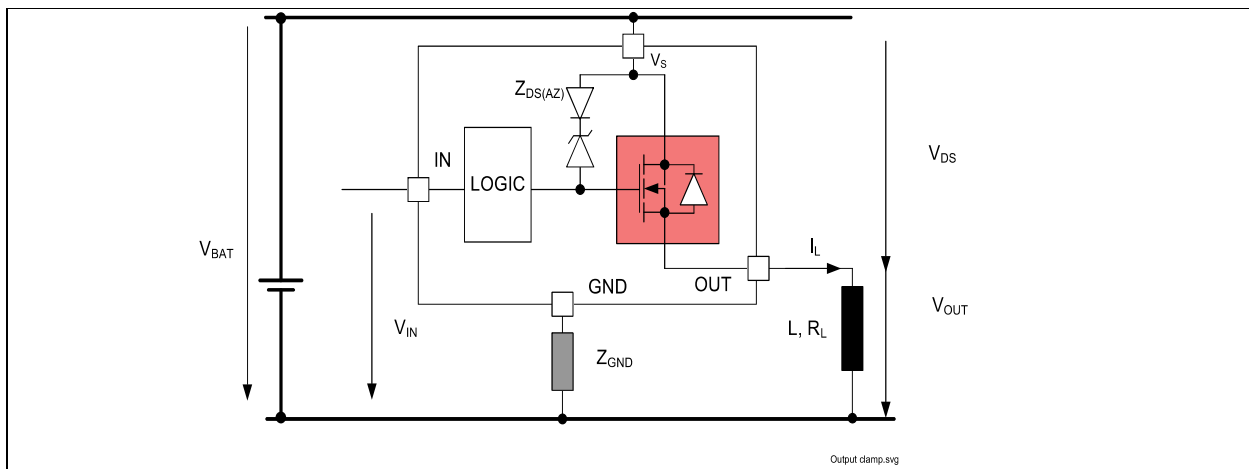

**Figure 9** Switching a Resistive Load Timing
**Figure 9** shows the typical timing when switching a resistive load.